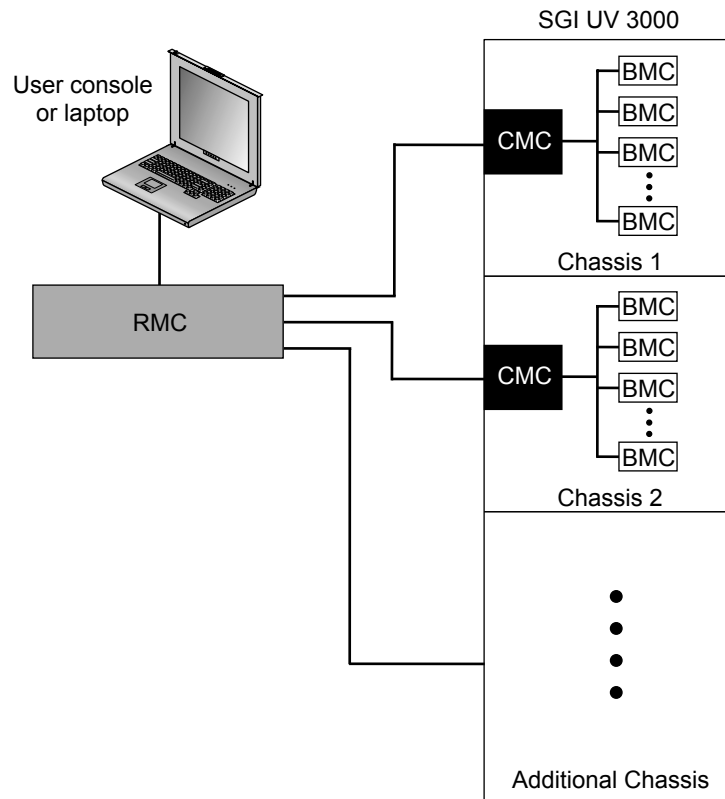
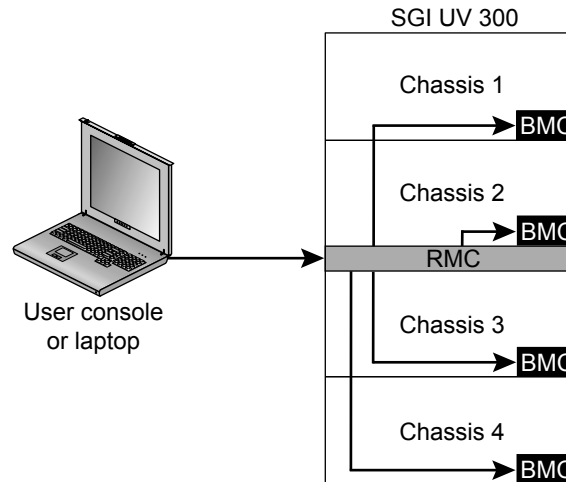

Figure 3-1 Connecting to the SGI UV 3000 RMC and Chassis BMC
Figure 3-2 Connecting to the SGI UV 300 RMC and Chassis BMC
- Figure 3-1 on page 28 shows an SGI UV 3000 system.
- Figure 3-2 on page 29 shows an the SGI UV 300 system or an SGI UV for SAP HANA appliance.
As Figure 3-1 on page 28 and Figure 3-2 on page 29 show, the SGI UV 3000 and SGI UV 300 systems each have a hierarchical system controller network. Because of this hierarchy, you cannot use `ipmitool` commands to access the baseboard management controllers (BMCs) and chassis management controllers (CMCs) directly.